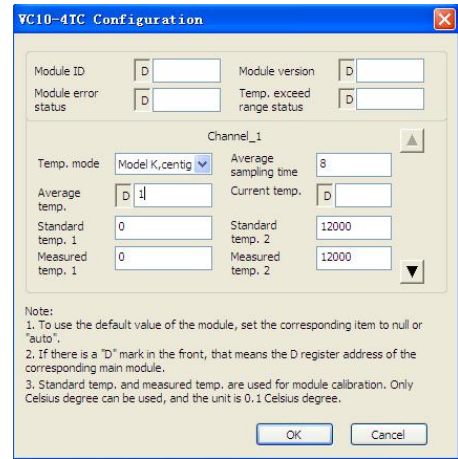
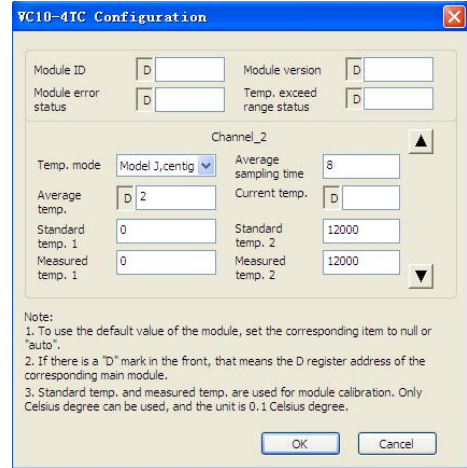

Figure 4-1 CH1 setting interface
Figure 4-2 CH2 setting interface
9. BFM#4094: software version information, displayed automatically as **Module Version** in **VC10-4TC Configuration** dialogue box of the host software, as shown in Figure 4-1.
The setting interface of output CH1 is shown in Figure 4-1. After the setting, click the downward arrow button → to continue to set CH 2 ~ CH4, whose setting interfaces are shown in figures 4-2 ~ 4-4. For detailed software usage, see *VC10 Series PLC Programming Manual*.